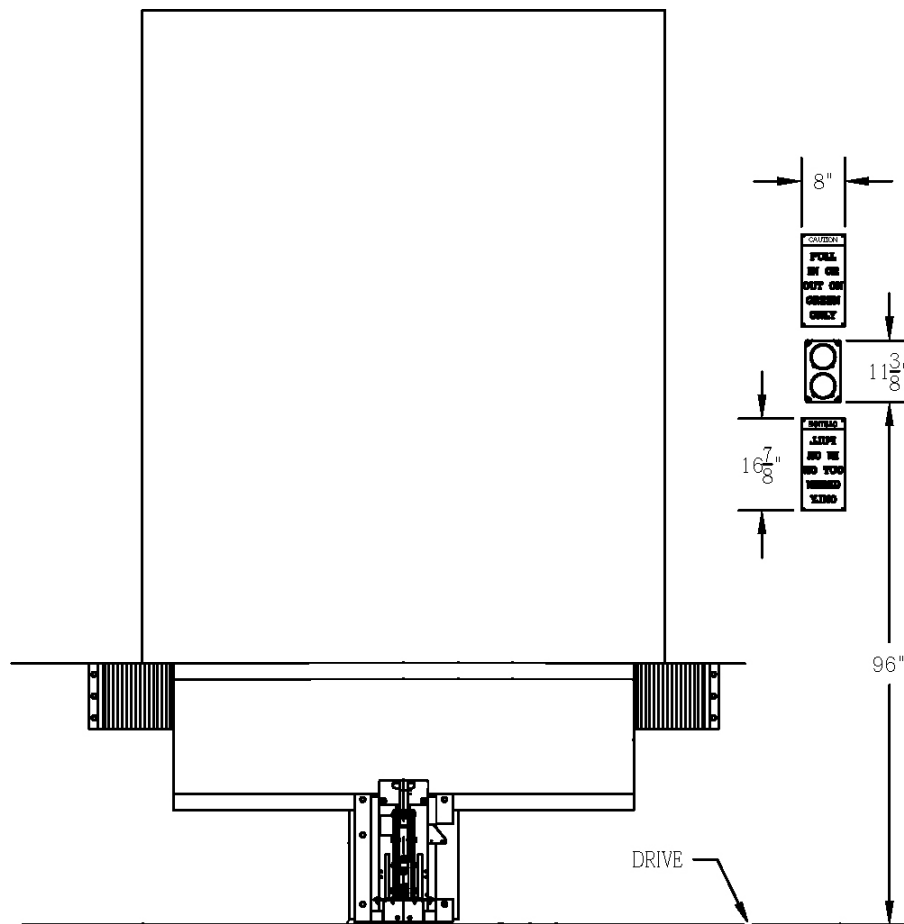

Figure 22
2. Install electrical disconnect panel (A) if not already installed. Disconnect panel supplied by others.
6. Install Outside Light Assembly and signs (see Figure 22).
**Note:** Installation measurements shown in Figure 22 are recommended based on typical dock conditions. Some installations may require alternate placement.
1. Mount the Outside Light Assembly (**B**) so bottom of outside light-to-drive distance (**C**) is 96 in. (2438 mm). See Figure 22.